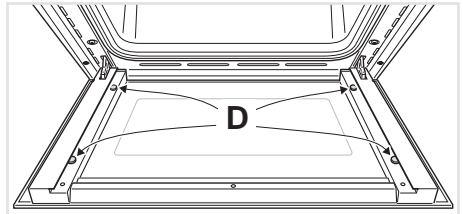

Fig. 6.14a
- Check that the four rubber pads are in place (“D” in fig. 6.14a).